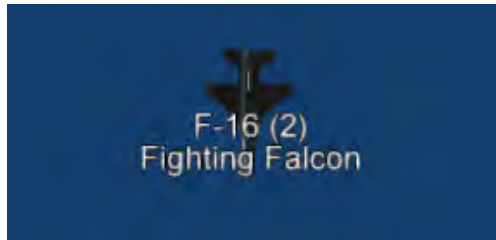

Figure 5.92: Custom Label
14. Zoom-in to the **F-16(2)** platform, the display should be similar to Figure 5.92.